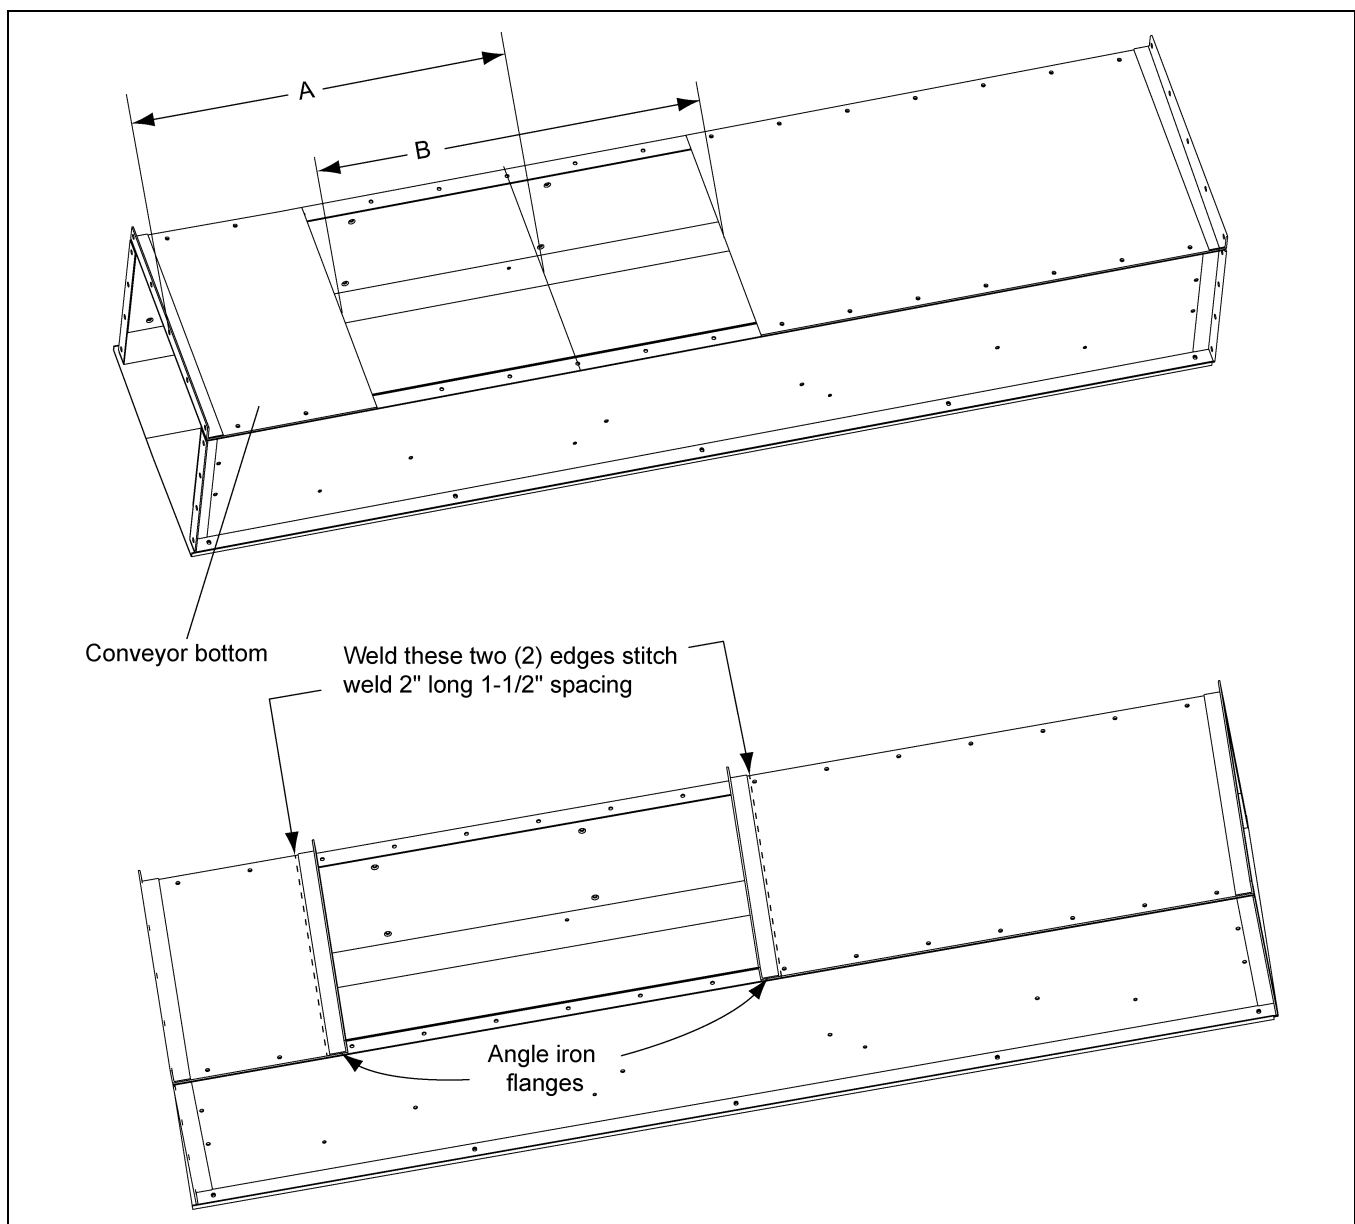

Figure 3B
1. Start by locating the center of the proposed discharge location. Dimension "A" shown *in Figure 3B*.
5. Weld the extra angle iron flanges provided with the gate to each trough bottom cut, as shown in *Figure 3B*, so that the gate can be bolted to each side. Stitch weld edges 2" long with 1-1/2" spacing.